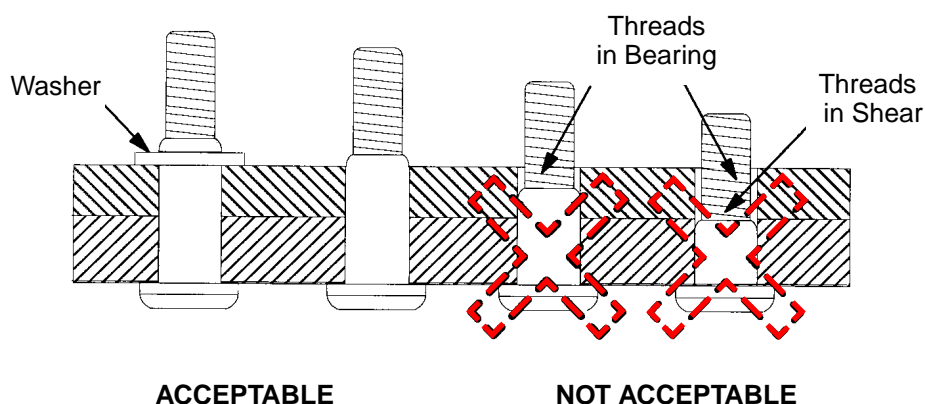

Figure 8 - Grip Length Verification
- 5.4.5 If Hi-Lok/Hi-Tigue pins of the correct length are not available, it is acceptable to use the next longer pin length provided that the requirements of Figure 8 are met. Also, if authorized in writing by Bombardier Toronto (de Havilland) MRB or Bombardier Toronto (de Havilland) delegated MRB, Hi-Lok/Hi-Tigue pins may be shimmed to the correct length using washers.
- 5.6.1 After the Hi-Lok/Hi-Tigue pin has been fully seated, ensure that threads are located correctly as shown in Figure 8. Threads in bearing are acceptable only against CSP306 saddle washers and in non-structural packers and brackets such as attachment clips for electrical wiring and plumbing.